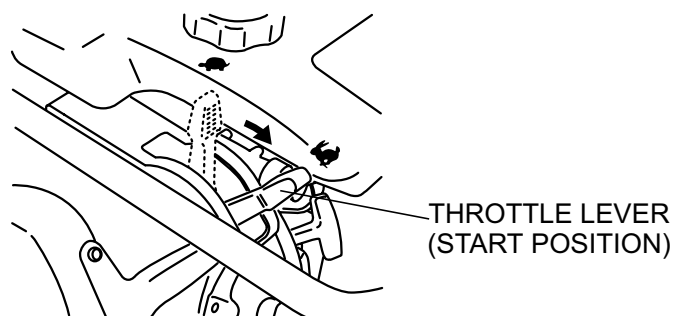

Figure 10. Throttle Lever (Start Position)
1. To start the rammer tamping action, move the throttle lever (Figure 10) **quickly** from **IDLE** to the **START** (🔌) position. **DO NOT** move the throttle lever slowly as this may cause damage to the clutch or spring.